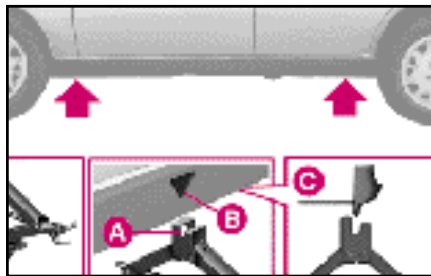

fig. 5
- 4) Arrange the jack at the ▼ symbol **B**-fig. 5 near the wheel to be changed and make sure that the groove **A** on the jack fits well into the sidemember **C**.